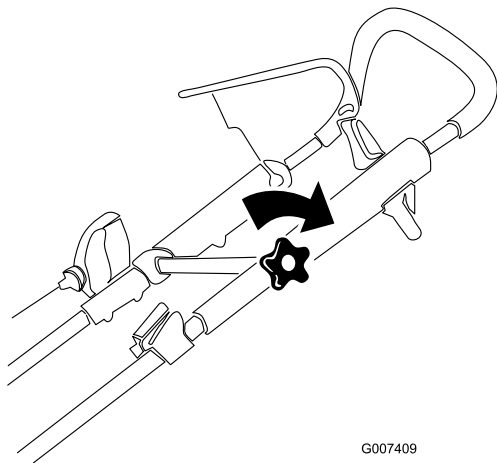

Figure 5
3. Move the upper handle to the desired position and tighten the upper handle knob firmly (model 20999 only) (Figure 5).